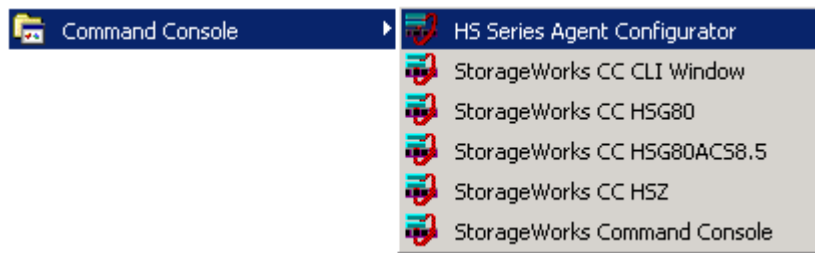
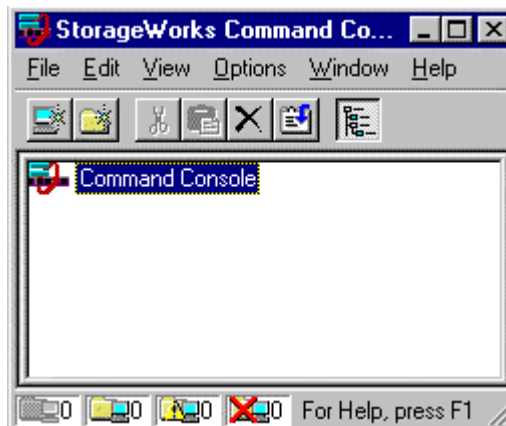

Figure 5-6. Command console start menu
Figure 5-7. Navigation window
3. Select StorageWorks Command Console from the *Command Console Start Menu* (Figure 5-6). After a short wait, Client will display the *Navigation Window* (Figure 5-7). The Navigation Window lets you monitor and manage storage subsystems over the network.